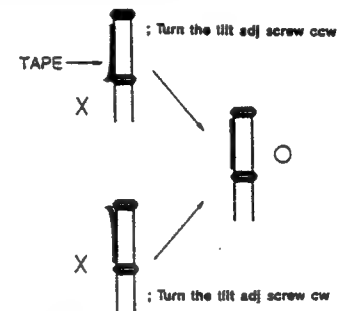

Fig. 2-2 T-Guide Post
A. Tilt Adjustment (refer to Fig. 2-2)